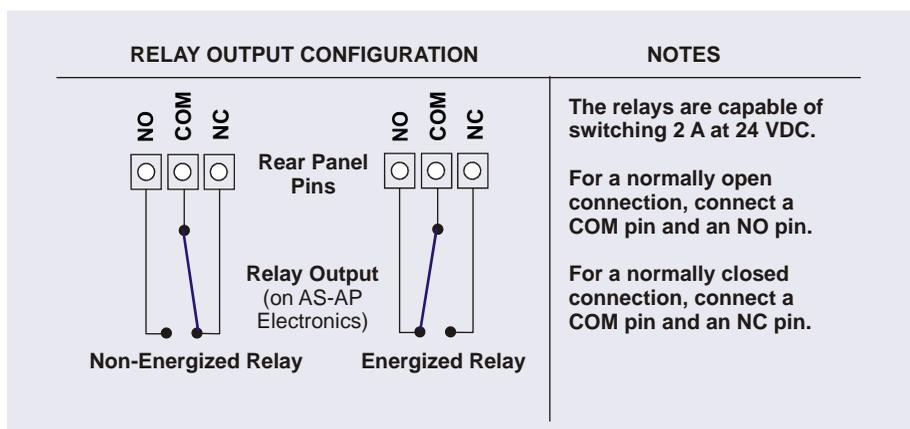

Figure 2-11. Relay Output Configuration
Depending on which pins are connected, a relay connection can be either normally open (NO) or normally closed (NC) (see Figure 2-11). Choose NO or NC based on what you want the state of the connected device to be when the Dionex AS-AP power is turned off. A normally open relay is open when the relay is turned off and closed when the relay is turned on. A normally closed relay is closed when the relay is off and is open when the relay is on.